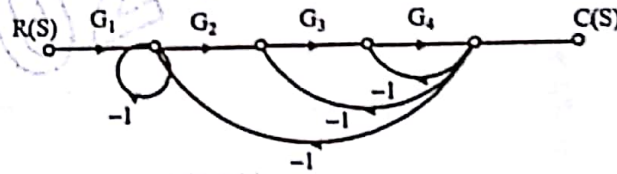

Fig. 4 (a)
4. a) Using Mason's gain formula rule determine T.F.  $\frac{C(s)}{R(s)}$  of a system represented by fig 4(a).